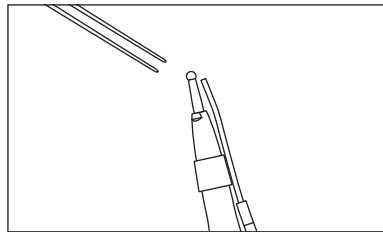

Fig. 7
3) Remove the bur from the handpiece using tweezers to firmly hold the bur. (Fig. 7)